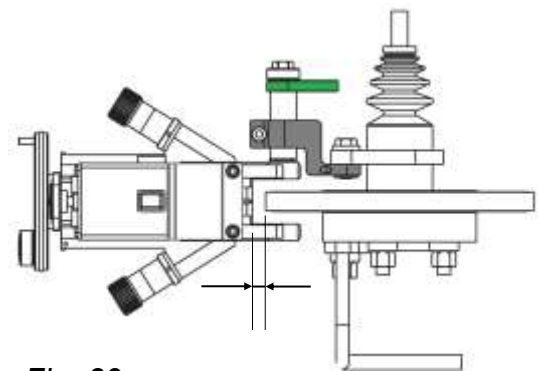

Fig. 39
1. Check the space between lathe and rotor: Keep the space between lathe and rotor short as possible, but minimal 5 mm (0.04 inch). Fig 39.
1. Bring the Lathe into correct position, Fig. 39.